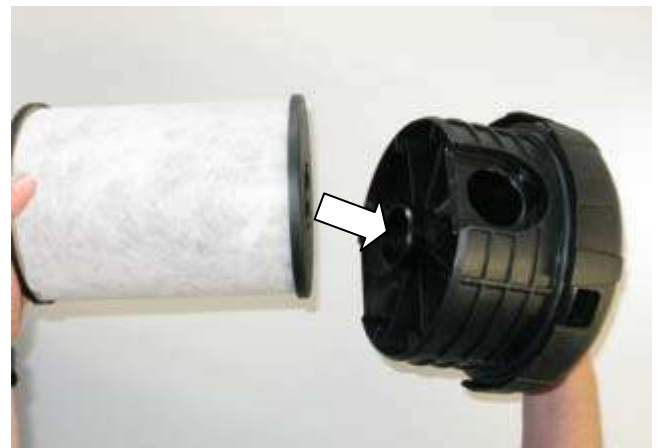

Fig. 24 Fitting oil separator of ProVent 800
- Pull the oil separator element off the lid fitting (see Fig. 24)